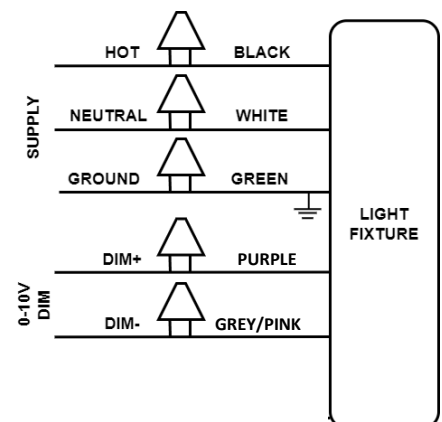

Figure 5.1
- Make appropriate wiring connections as per wiring diagram. [Fig. 5.1]